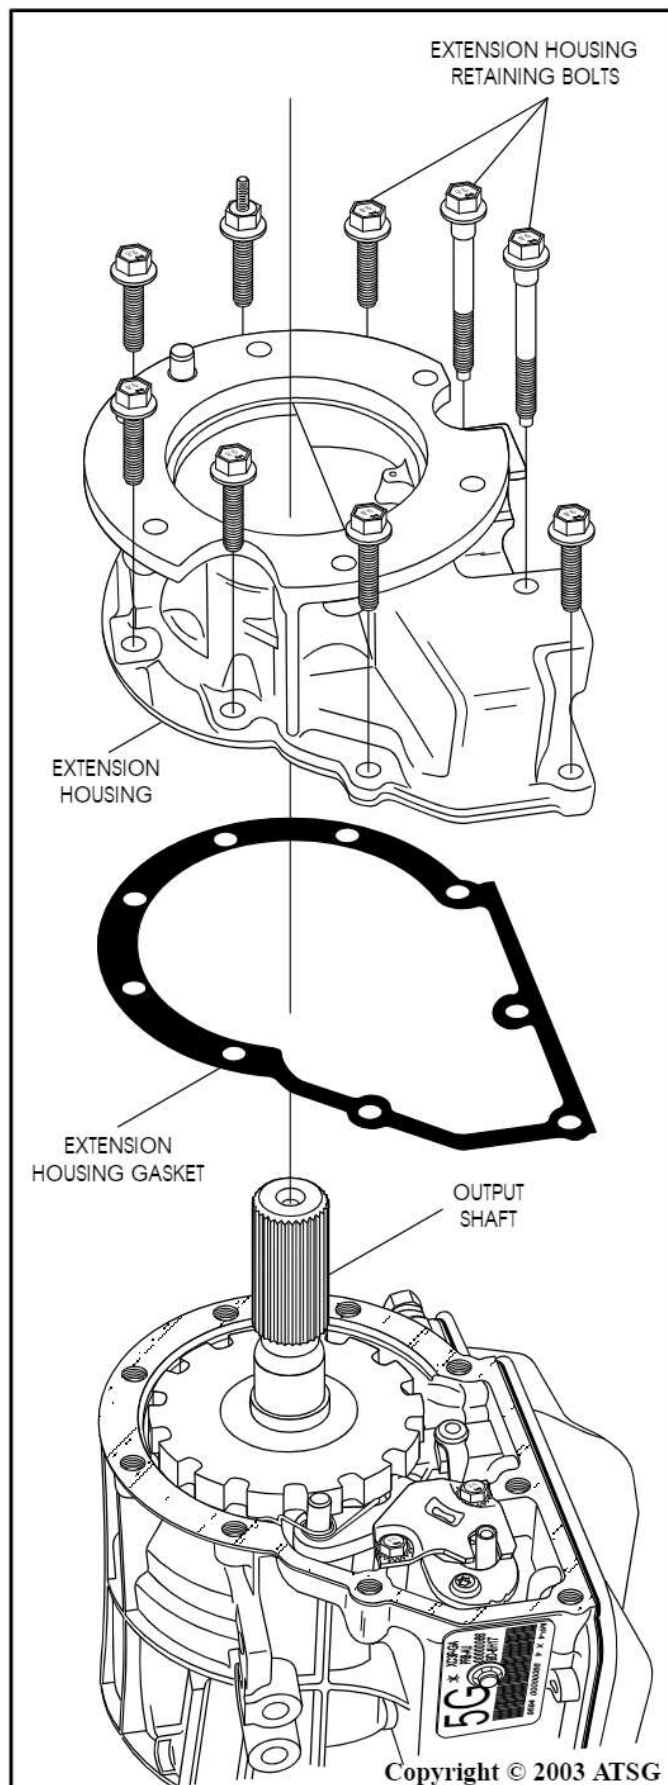
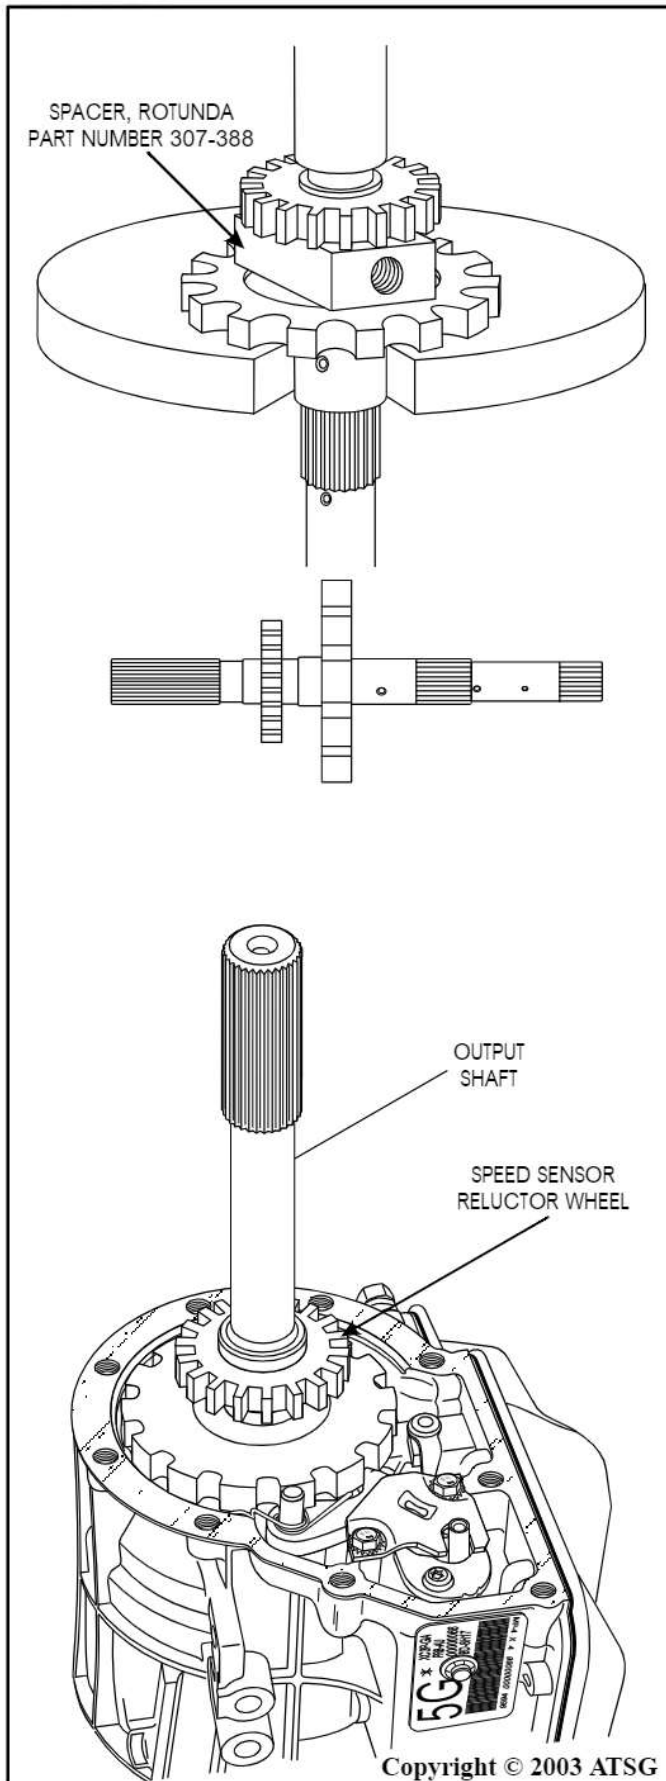

Figure 74
Figure 75
30. Rotate transmission in fixture so output shaft is facing up, as shown in Figure 74.
31. Remove the extension housing retaining bolts and housing, as shown in Figure 74.
32. We have illustrated the typical 4WD version in Figure 74, and the 2WD version in Figure 75.
33. Notice that the 2WD version has a speed sensor reductor wheel that must be pressed off and on, if necessary to replace, as shown in Figure 75.
34. Remove and discard the extension housing gasket, as shown in Figure 74.